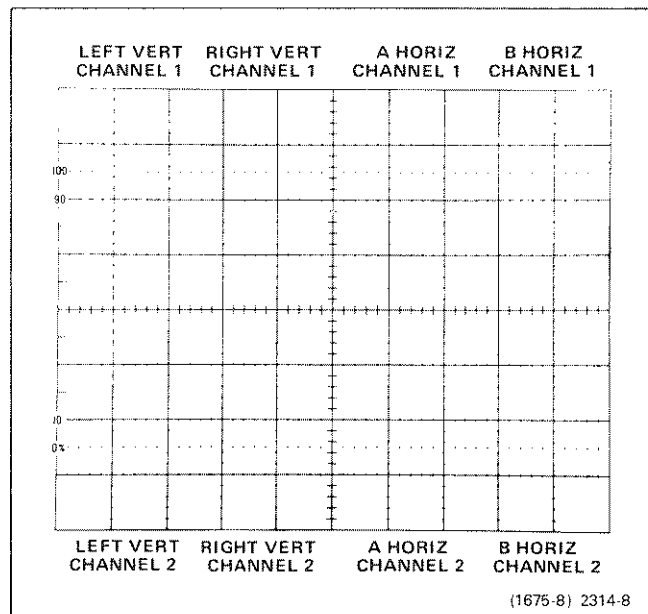

Figure 3-8. Location of readout display on the crt identifying the originating plug-in and channel.
**Frame**—A display of all words for a given operating mode and plug-in combination. Up to 8 words can be displayed in one frame. Figure 3-8 shows the position of each word in a complete frame.
Up to 8 words of readout information can be displayed on the crt. The position of each word is fixed and is directly related to the plug-in unit from which it originated. Figure 3-8 shows the area of the graticule where the readout from each plug-in unit is displayed. Notice that Channel 1 of each plug-in unit is displayed within the top division of the crt, and Channel 2 is displayed directly below within the bottom division. Figure 3-10 shows a typical display where only Channel 2 of the Right Vertical and B Horizontal units is selected for display.
The Format Generator stage provides the output signals to the vertical and horizontal deflection systems of the instrument to produce the character display. The binary Channel Address Code from the Channel Counter stage is connected to this stage, so that the display from each channel is positioned to the area of the crt associated with the plug-in and channel originating the word (see Fig. 3-8). The positioning current or decimal point location current generated by the Decimal Point Logic and Character Position Counter stage is added to the Horizontal (X) signal at the input to the Format Generator stage to provide horizontal positioning of the characters within each word. The X- and Y-Readout signals are connected to the Horizontal Amplifier and Vertical Amplifier through the X- and Y-Buffer stages.